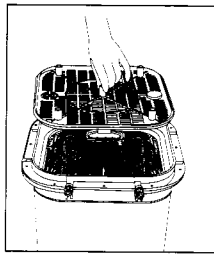

Figure 11
4. Lift filter basket from the bucket, wash filter foam, bio-ball and filter barrel with water. (As Figure 11, 12, 13.)